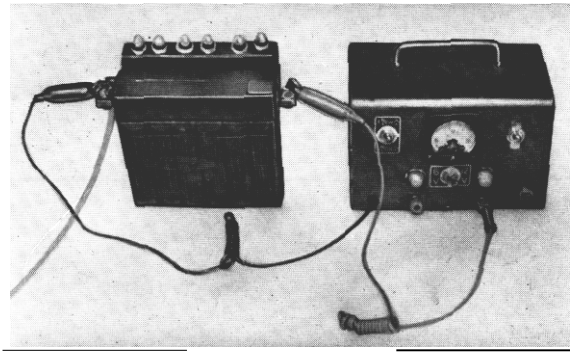

Fig. 2-8. Supplement charging of Battery
- (1) Inspect battery periodically, once a week for automotive use. At least twice a month or after each 1,000—2,000 km (620~1,860 mile) running.
- (2) Special attention should be paid on the level of solution and if short supply distilled water or drinking water (no content of metal as ferrous). If the case of battery is transparent there is shown level of solution. but generally the height of solution should be adjusted about 13mm 10.51 in.) over the separator. If the pole plate be exposed in the air due to drop of level, there occurs oxidation on the plate making white sulphuric lead which decrease volume of battery, and effect the performance of exposed plate to be serious cause of inner shorting. So many troubles are experienced due to this cause. therefore it wouldn't be exaggeration to say that is the most part of causes to shorten it life.
- (3) Keep always in charged state. If used for a long time in insufficient charged state trouble called sulphation will be accelerated and at last it invites such difficulty as to make it hard to restore original substance by usual charging. Such pole plate warps easy to short. On the other hand, if used with thin solution due to over discharging separator gets damage. Therefore it is requested to supplement change before the discharge limit. (Fig. 2-8~2-10)